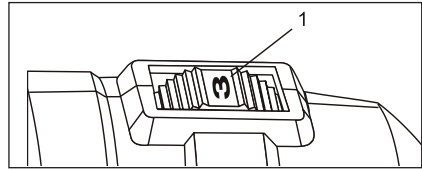

Fig. 1
Set the rotary tool speed by rotating the variable speed control wheel (1) to the appropriate speed (Fig. 1). Position the speed control wheel at "1" for slowest speed, "3" for medium speed and at "MAX" for the highest speed.